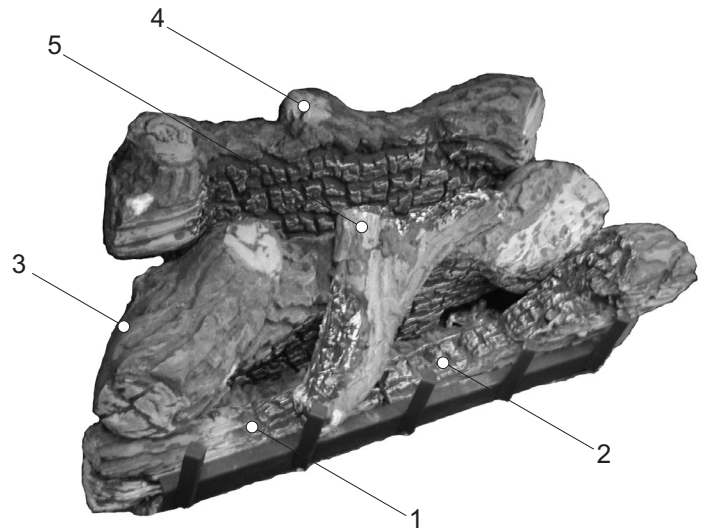
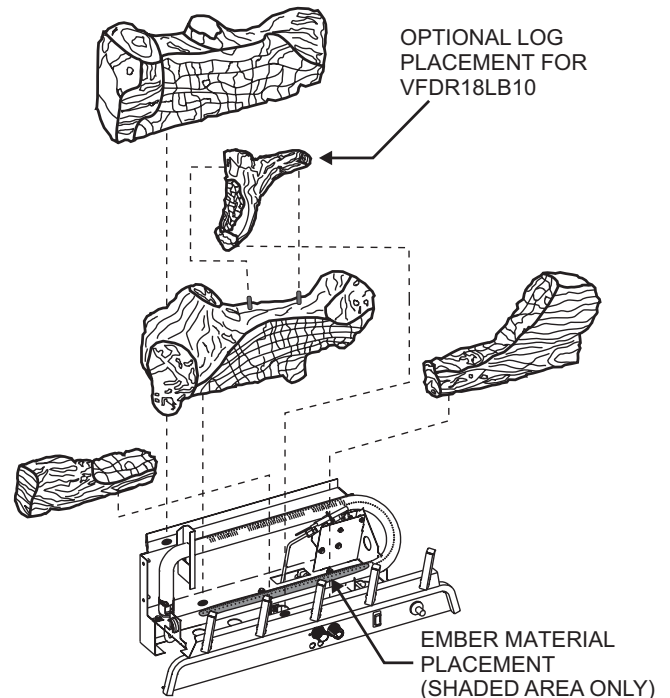

Figure 12
Figure 13
The positioning of the logs is critical to the safe and clean operation of this burner assembly. Sooting and other problems may result if the logs are not properly and firmly positioned on the burner assembly. Refer to **Figure 12** and **Figure 13** and corresponding **'WARNING:'** when completing following log placement instructions.
5. After all logs are positioned properly, apply Rockwool ember material to the front burner port area. To apply, carefully separate the ember material into small amounts no larger than "dime size" pieces. Fluffed up pieces one layer thick on top of the burner generally works best, and will provide the best ember glow. Do not place ember material more than one layer thick. No more than (2) two small packets of ember material (part no. 15998) evenly placed on the burner, is recommended on VFDR18 and VFDR24 models. Using additional ember material will decrease the amount of ember glow effect. Extra ember material should be saved for future ember applications as necessary. **See Figure 13.**
Attention: Do not use Figure 12 or Figure 13 to order logs. Refer to Parts Lists and Parts Views to order logs and/or ember material for your appropriate model.